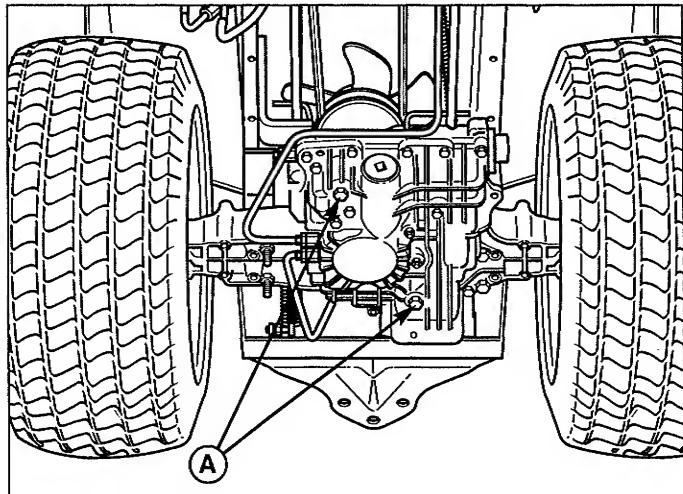

Figure 24. Transmission Drain Plugs
1. Place a drain pan under the transmission and remove the two 14mm drain plugs (A, Figure 24).
6. Reinstall the plastic plug (A, Figure 25) and the two 14mm drain plugs (A, Figure 24).